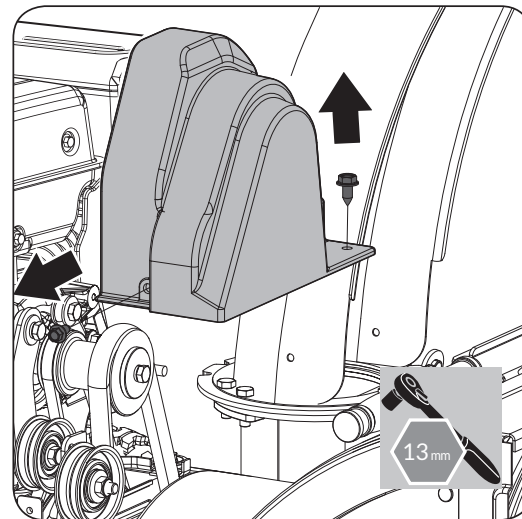

Figure 17a
2. Remove the two screws that hold the belt cover in place and set the cover aside. (See **Figure 17a**)
2. Remove belt cover. (See **Figure 17a**)